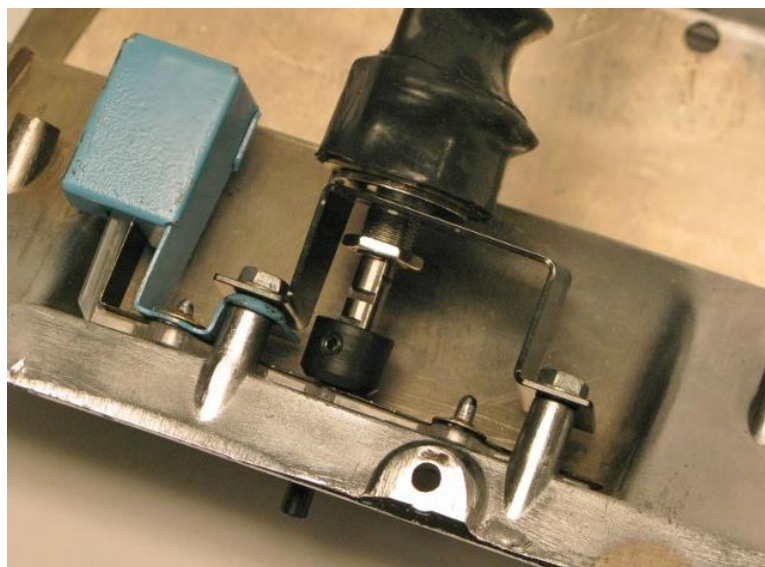

Figure 7 – Install Wiper Switch & Extension
14. Install the DSE wiper switch into the switch adapter and slide the hex nut on over the switch shaft. Then slide the switch shaft into the switch extension. Start to thread the hex nut onto the threads of the wiper switch. Align the set screw with the flat on the switch shaft and tighten the set screw (Figure 7). **NOTE:** Make sure the set screw locks onto the flat on the switch.